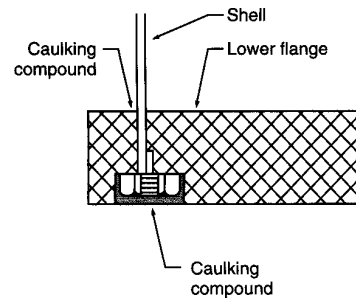

FIGURE 7
1. Remove drum from installation and remove caulking from chamfered grooves and counter-sunk holes as shown in Figure 7.